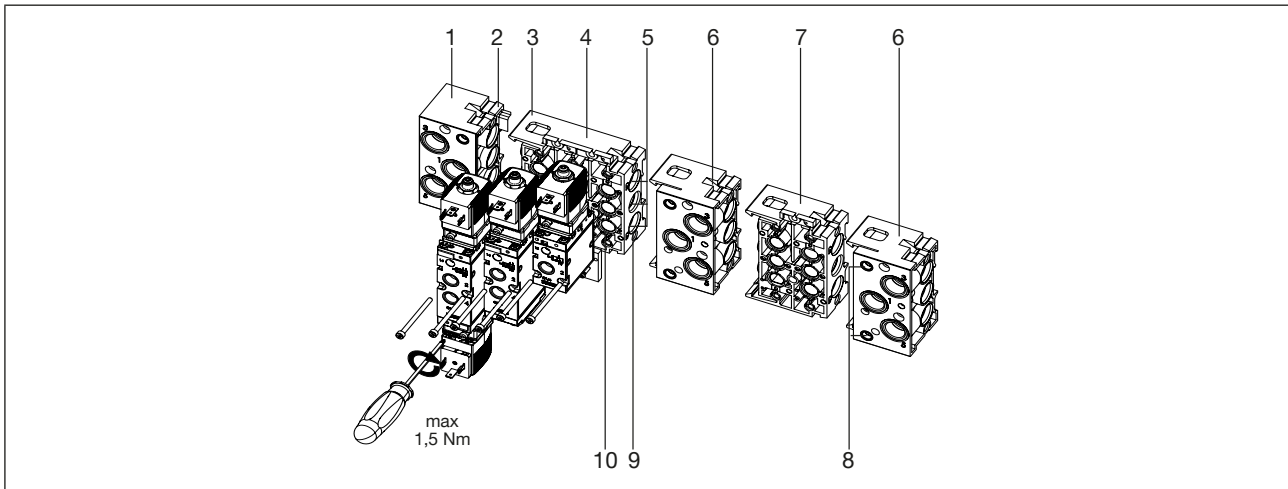

Figure 5: Example of a multi-block with type 6519 valves
- Begin installation with connection module on the left (see “Figure 5”)